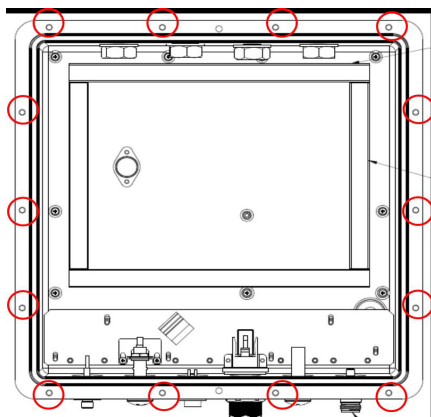

Figure 3-6. Location of 14 Screws
2. Referring to Figure 3-6, remove the 8 screws around the outside of the instrument connecting the top and bottom covers.
3. With the 8 screws from Figure 3-6 removed, the top and bottom panels can be removed by sliding them towards the rear of the unit.
3. Referring to Figure 3-6, remove the 14 screws around the outside of the instrument connecting the top and bottom covers.